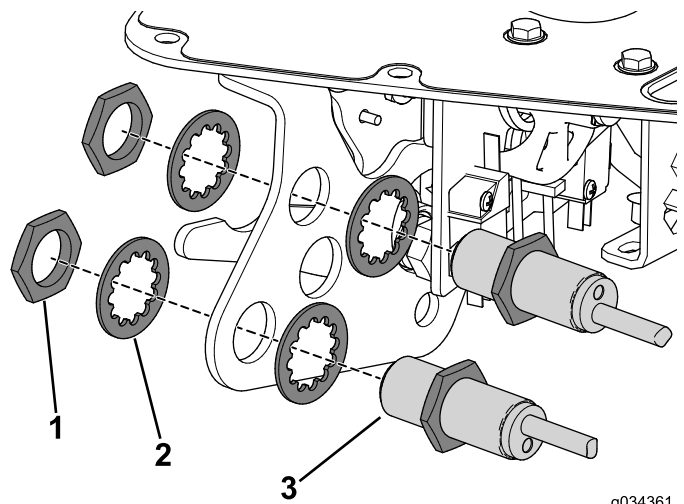

Figure 23
3. Use the nuts and lock washers that you removed earlier to secure the proximity sensors to the function-lever bracket (Figure 23).